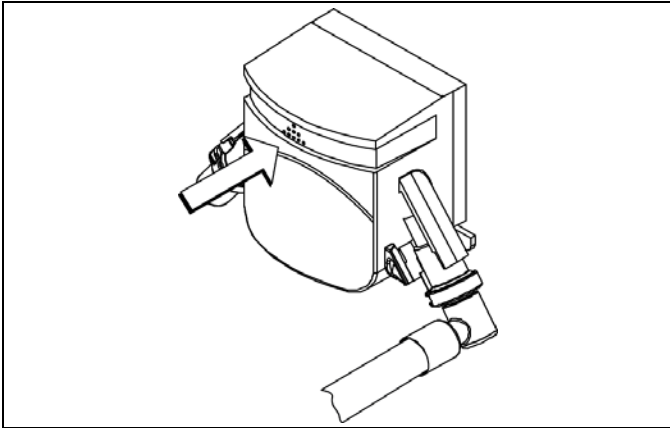

Figure 6-127
- Open the pump by pushing up on the hinged cover. (See Figure 6-127.)